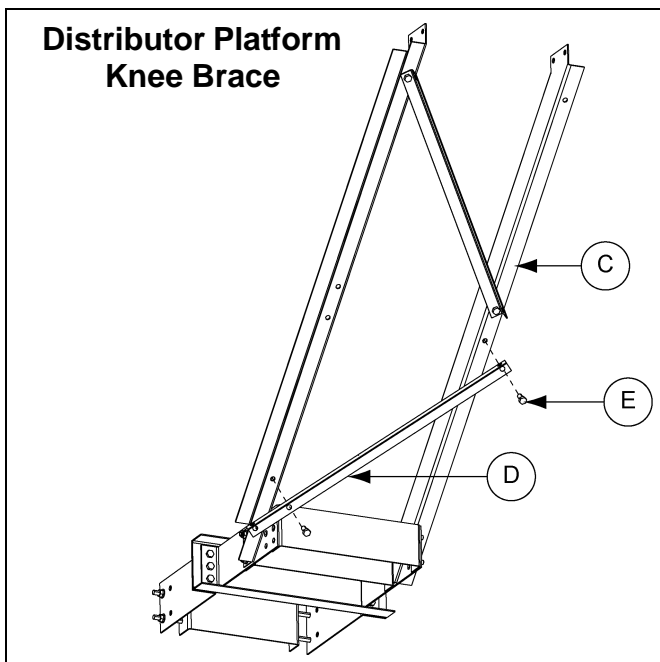

Figure 10G 24" Distributor Platform Knee Brace
**NOTE:** For 24" installation the lower knee brace will use the second hole on the brace and the second hole up from the bottom on the brace channel. (See Figure 10G on Page 78.)